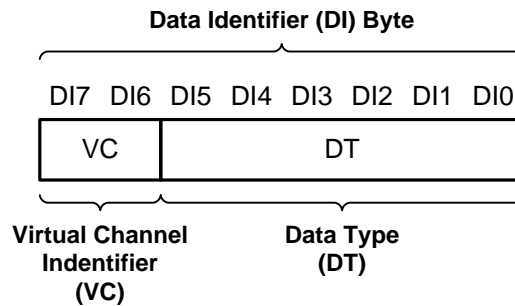

图 22. CSI-2 Data Identifier Structure
The DS90UB962-Q1 MIPI CSI-2 protocol interface transmits the data identifier byte containing the values for the virtual channel ID (VC) and data type (DT) for the application specific payload data, as shown in 图 22. The virtual channel ID is contained in the 2 MSBs of the data identifier byte and identify the data as directed to one of four virtual channels. The value of the data type is contained in the 6 LSbs of the data identifier byte. When partnered with a DS90UB935-Q1 serializer, the Data Type is passed through from the received CSI-2 packets. When partnered with a DS90UB933-Q1 or DS90UB913A-Q1 the received RAW mode data is converted to CSI-2 Tx packets with assigned data type and virtual channel ID.